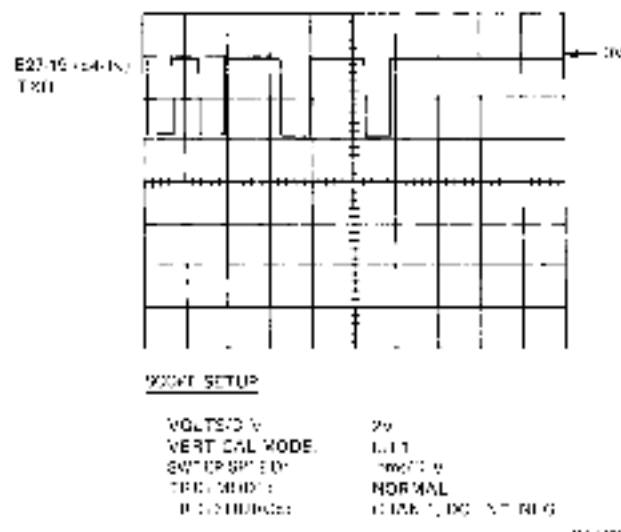

Figure 6-13 USART Serial Data (Lowercase "m")
9. Connect the scope to E27-19/E4-19 (signal TxDr). Set the scope as shown in Figure 6-13.
10. Apply power to the terminal. Press and hold the lower case **m** key and check for the waveform of Figure 6-13. This is the serial representation of ASCII data for this character.